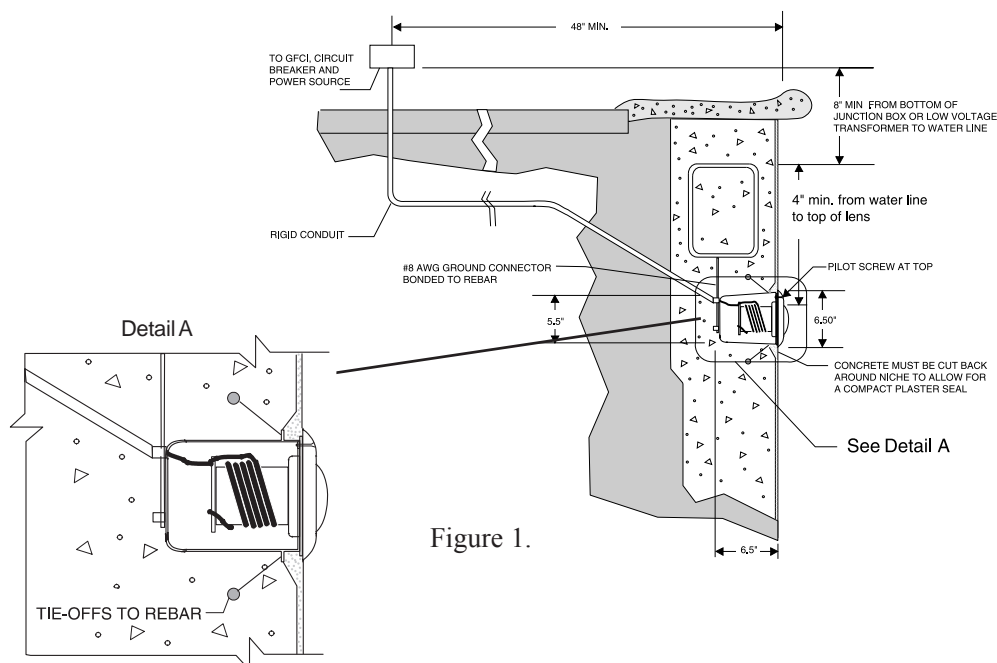

Figure 1.
Pentair Aquatic Systems HiLite® is Underwriters Laboratories Inc. listed for installation so that the top edge of the lens is at least 4 inches below the surface of the water in the pool, see Figure 1, below and on page 3. All references to the top edge of the lens of the HiLite® being at least 18 inches below the surface of the water in the pool are to now be **at least 4 inches** below the surface of the water in the pool.
A. Preparatory steps which must be completed by the electrician before light is installed, see Figure 1.
b. The junction box or the low voltage transformer is located at least 8 inches above water level and at least 48 inches from the edge of the pool, see Figure 1.
c. The wet niche and all metal items within five (5) feet of the pool must be properly electrically bonded.
d. The wet niche must be properly installed so the pilot screw hole is at the 12 o'clock position and that the top edge of the Underwater Light's lens is at least 4 inches below the surface of the water in the pool, see Figure 1.
e. The wet niche must be properly electrically bonded and grounded via the NO. 8 AWG ground connector located at the rear of the niche, see Figure 1.
1. Feed cord through conduit to junction box leaving at least four (4) feet of cord at the light fixture to coil around the light, see Figure 1. This four (4) feet of cord coiled around the light allows the light to be serviced after the pool is filled with water.
3. Strip six (6) inches of the outer cord jacket to expose the two insulated wires — Be careful not to damage the insulation on the two (2) inner wires.